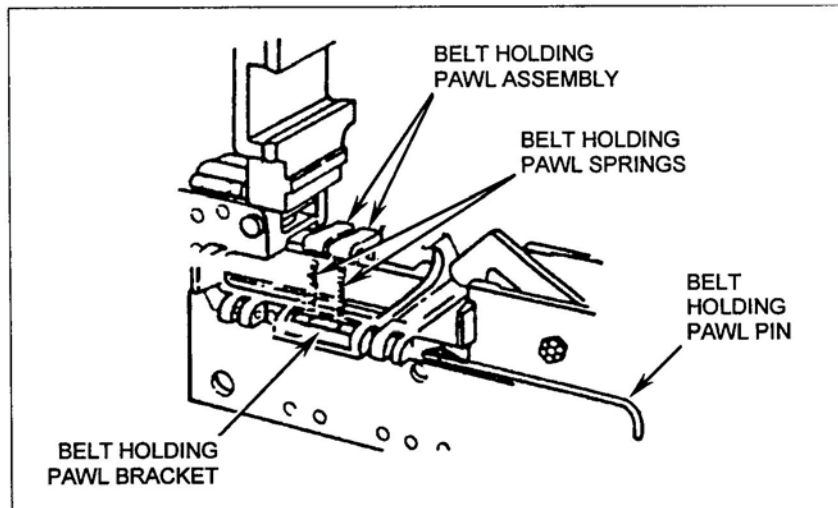

Figure 25. Installation of the belt-holding pawl assembly.
- (2) Install belt holding pawl pin with hooked end to rear.
- (3) Seat belt-holding pawl springs in place on the belt-holding pawl bracket.
- (4) Place belt-holding pawl assembly on the springs. Compress springs and insert belt-holding pawl pin (Figure 25).